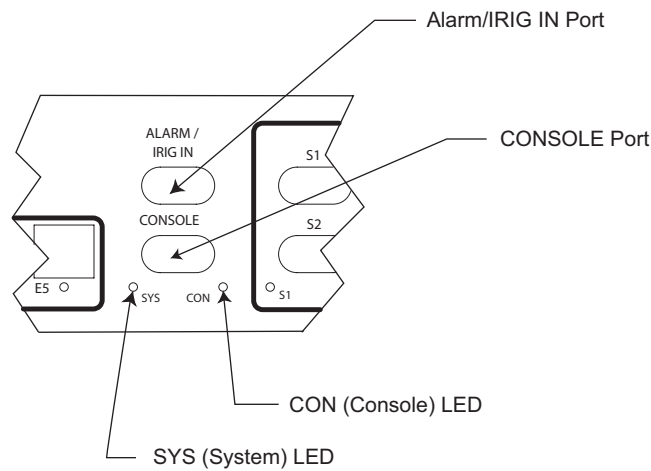

Figure 3-2. Alarm and Console Ports
6. The SYS LED, shown in **Figure 3-2 on page 3-6**, will illuminate green after roughly 20 seconds.
The Alarm/IRIG IN connector on the rear of the **DYNASTAR 1500** accepts a male DB9 connector. The inputs on these lines are made prior to the installation of the **DYNASTAR 1500**. The mating pairs are shown in **Table 1-9**. Refer to **Figure 3-2**.